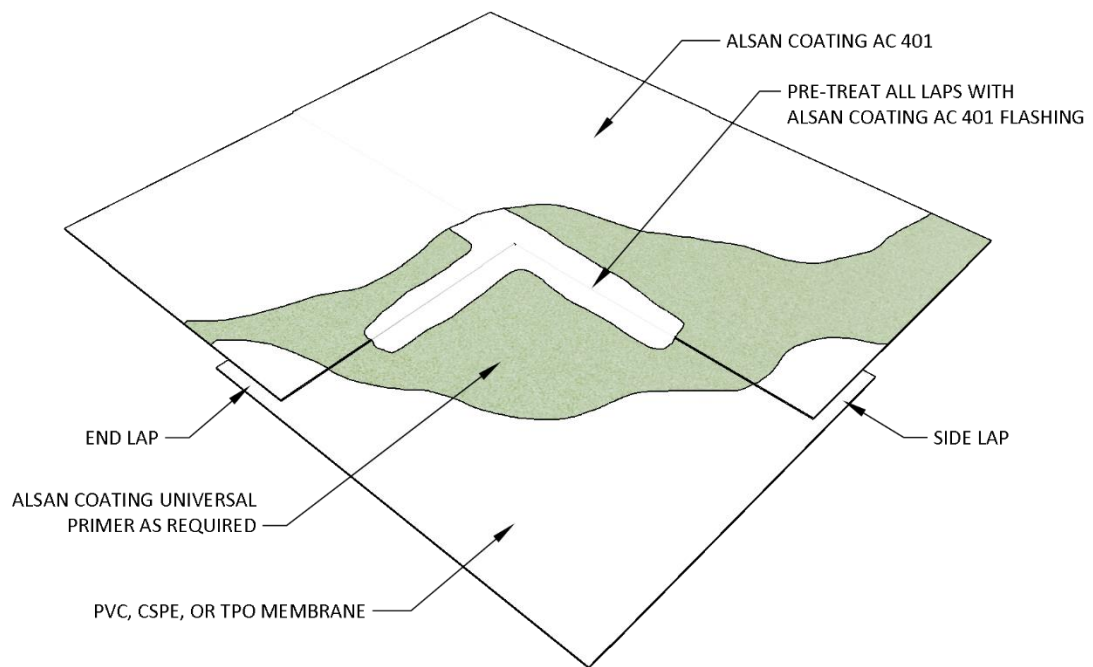

Figure 2.2i Acrylic Roof Coating Over TPO/CSPE/PVC, Side/End Laps
- Refer to flashing detail guidelines indicated in Figures 2.2i through 2.2j.